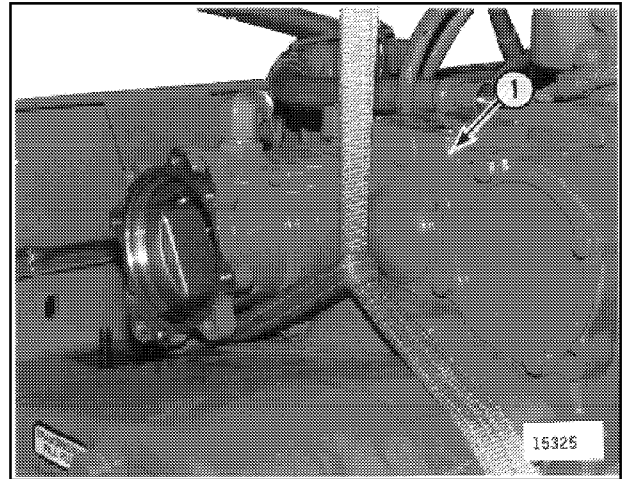

Figure 76
2. With nylon straps/chains around transmission (1, Figure 76) and suitable lifting device, lower the transmission into position so that it can be positioned directly in line with the engine crankshaft and engine flywheel housing. Align the pilot sleeve with the flywheel pilot bore, and align the 3.000 In. (76.200 mm) stud with one of the thru holes in the flywheel.